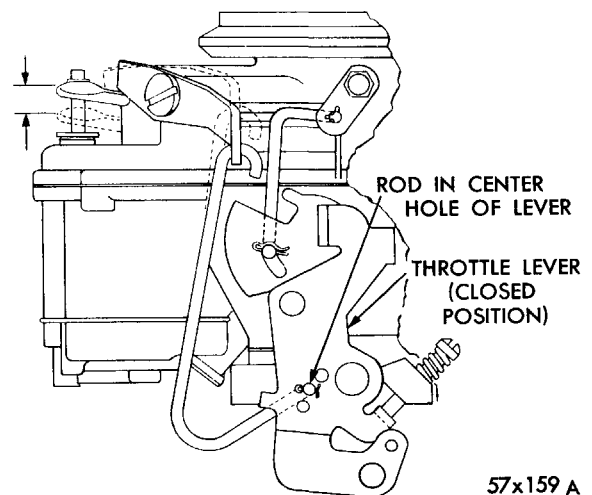

Fig. 28—Accelerator Pump Adjustment
(1) To check the accelerator pump travel, hold the carburetor in a vertical position, then operate the accelerator pump to permit the check ball at the bottom of well to take its normal position on seat.
(2) With the choke valve held open, measure the travel of the accelerator pump as the throttle valves are moved from fully closed to wide open position. The accelerator pump travel should measure from $\frac{3}{32}$ to $\frac{5}{16}$ inches, as shown in Figure 28.